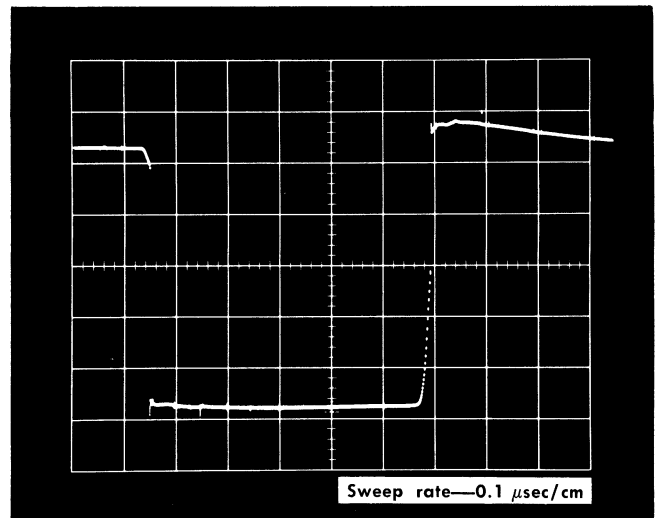

Fig. 2-12. Crt display for oscilloscope Delayed Pulse Bias adjustment.
4. Adjust the TIME POSITION control and the vertical positioning controls to display both the negative-going and positive-going portions of the pulse. The display should be similar to that shown in Fig. 2-12.1